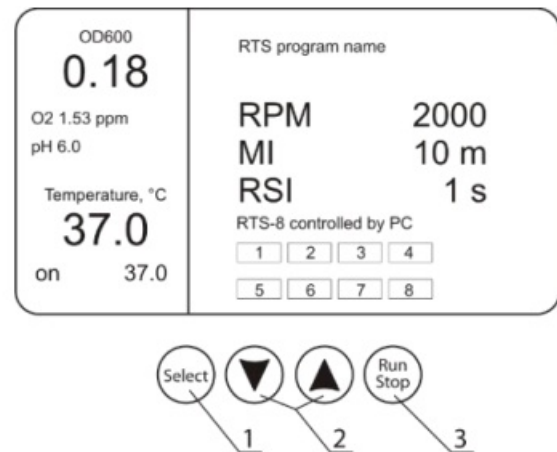

Figure 2. Control panel
- Press the Select key (fig. 2/1) to activate the possibility to change to an individual channel or to a parameter (the channel box or parameter will be highlighted and blinking). The selected channel box will remain blinking all the time while the device is on. Indications of colors of boxes are the following:
- Use ▲ and ▼ keys (fig. 2/2) to change to an individual channel or set the necessary value (the box will be highlighted and blinking).
- Press the Run Stop key (fig. 2/3) to start and stop the operation.